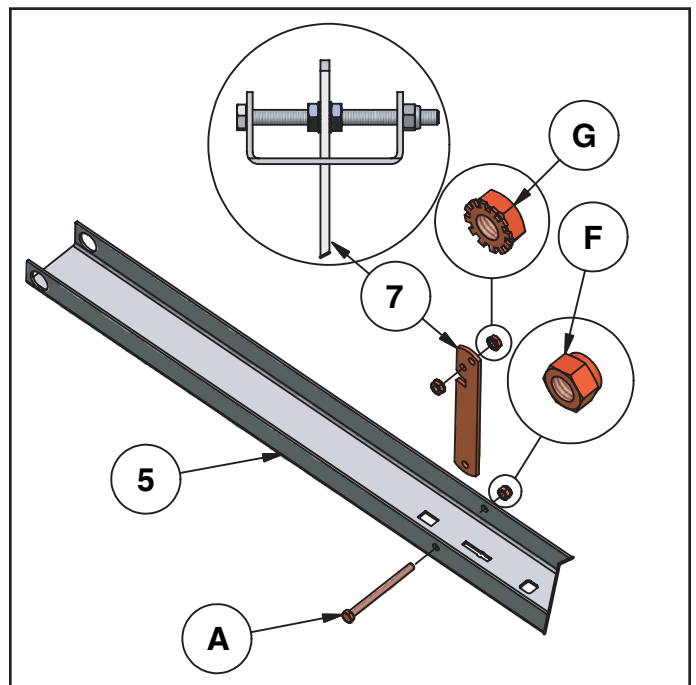

FIGURE 1
- (2) 9/16" Wrenches
STEP 1: (SEE FIGURE 1)
- Place the latch lock lever (7) through the slot in the tongue (5). Assemble the hex bolt (A) through the tongue, the lever, and two (SEMS) hex nuts (G) placed on each side of the lever. Assemble the nylock nut (F) onto the end of the hex bolt (A) and tighten so that the hex bolt (A) can still rotate freely. Tighten the two (SEMS) hex nuts (G) against each side of the latch lock lever (7) so that it is centered in the slot.